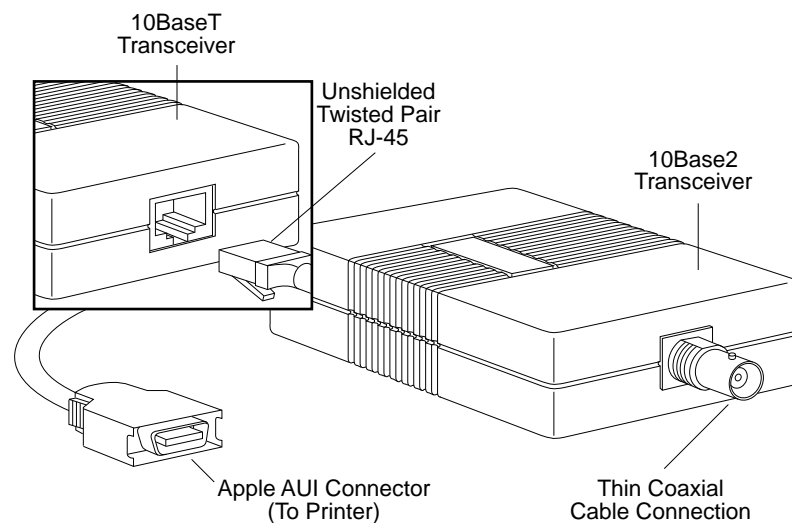

Fig. 2.22 Ethernet Transceivers and Cables
Both methods require an external transceiver which is available from most computer stores or mail-order warehouses. The transceiver should have an Apple AUI (Attachment Unit Interface) connector on one end and either an Unshielded Twisted Pair (UTP or 10BaseT) cable or a thin coaxial connection (ThinNet, CheaperNet, or 10Base2) on the other end. Figure 2.22 illustrates an example of both a 10Base2 and a 10BaseT transceiver; however, designs vary slightly among transceiver brands.
A UTP cable looks like ordinary telephone wire. Each end has an RJ-45 plug which looks like a slightly-larger version of the standard telephone plug (fig. 2.22). The UTP cable should be a maximum of 328 ft. (100 m) in length. No cable terminators are necessary.
2. Plug the transceiver's Apple AUI connector (fig. 2.22) into the Ethernet port on the printer.
2. Plug the transceiver’s Apple AUI connector (fig. 2.22) into the Ethernet port on the printer.